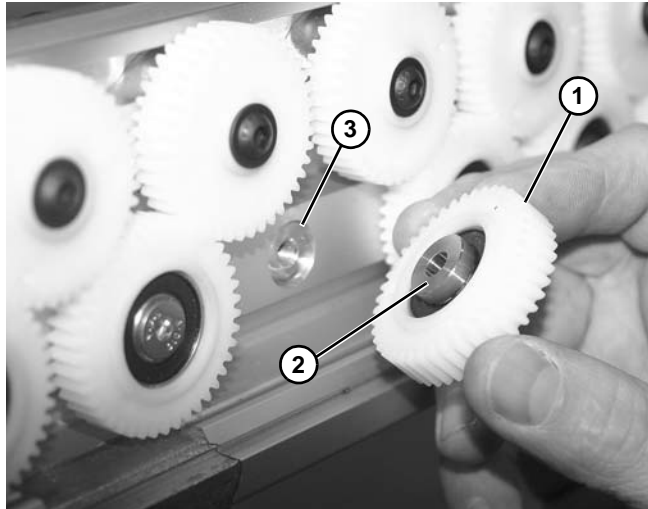

Figure 57
5. Install new gear in reverse order of removal. NOTE: When installing, be certain spacer flange is properly installed onto gear (**Figure 57, item 1**), with large flange end (**Figure 57, item 2**) of spacer mating with recessed area (**Figure 57, item 3**) on conveyor frame.